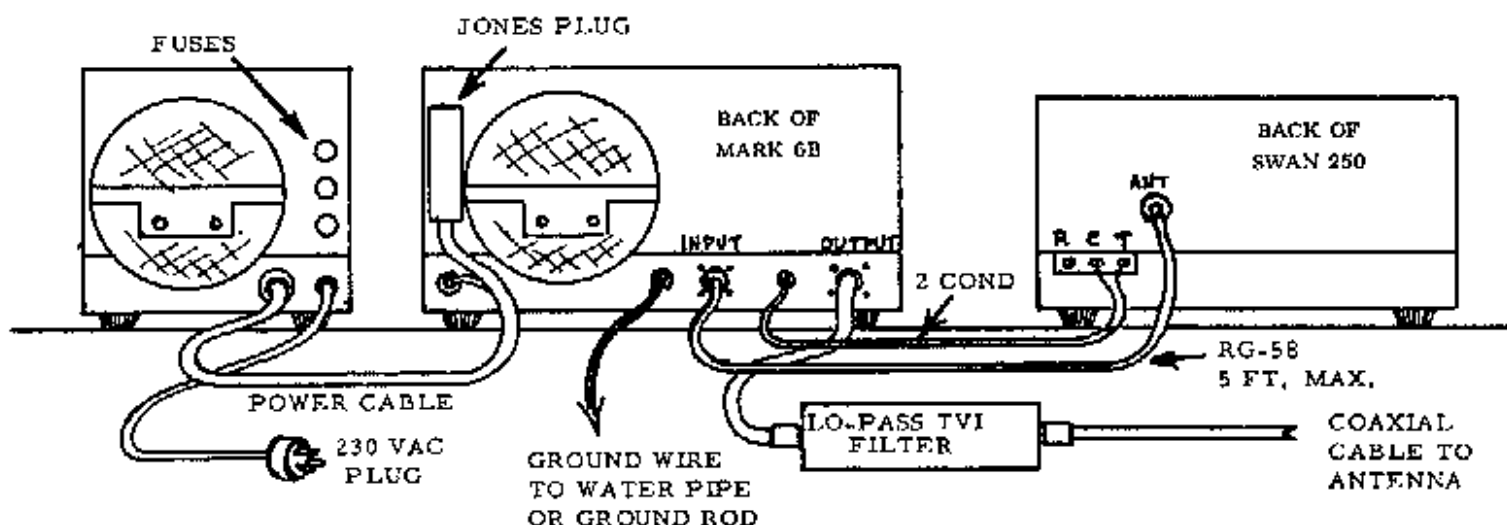

FIG. 1 INSTALLATION, REAR VIEW
- Refer to the pictorial in Fig. 1 when making the installation. Connect a short length of coaxial cable (RG-58 or RG8) from the transceiver or exciter to the coaxial input jack on the Mark 6B. A PL-259 type connector is required at the amplifier end of the cable. This cable should be as short as practical and preferably not more than 5 feet long. NOTE: Swamping the exciter or driver power with an attenuator is not normally required with drivers up to 500 watt PEP input rating. After proper tuning procedures have been followed, the Mic. Gain control will be used to set the level of drive. If the driver is called on for less than its maximum power, distortion products will be less, and overall performance improved.